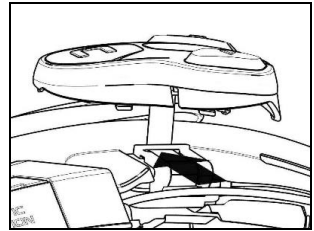

Fig. 20
- Fix the cable inside the helmet and make sure the left fixing clip snaps into its housing (Fig. 20).